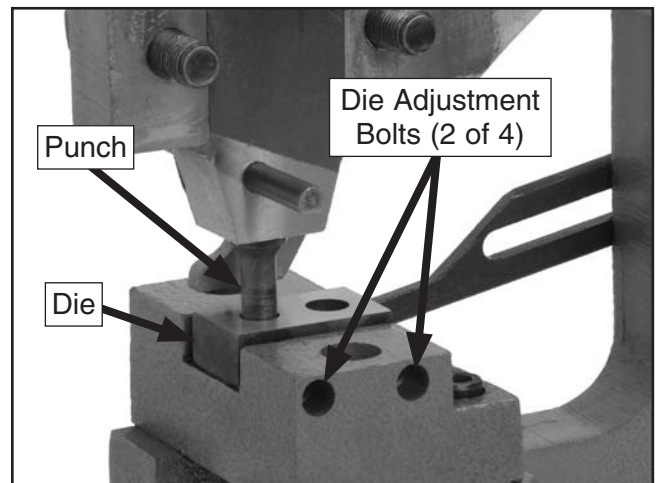

Figure 13. Punch and die alignment (side plate removed for clarity).
5. Place the new die into the machine, then lower the handle while adjusting the position of the die so that the punch fits into the die (**Figure 13**).